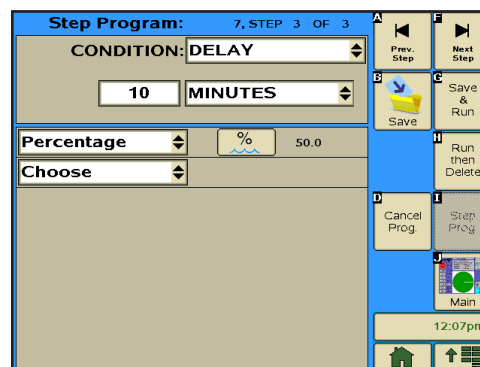

Figure 140-3
11. Program the delay time condition for this step. Refer to Figure 140-3.